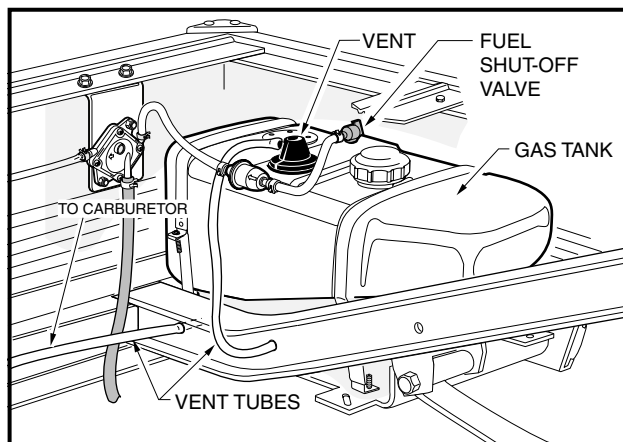

Figure 18 Fuel Tank
- If the vehicle has an all-weather enclosure installed, be sure the gas tank is properly vented as shown (Figure 18, Page 28).